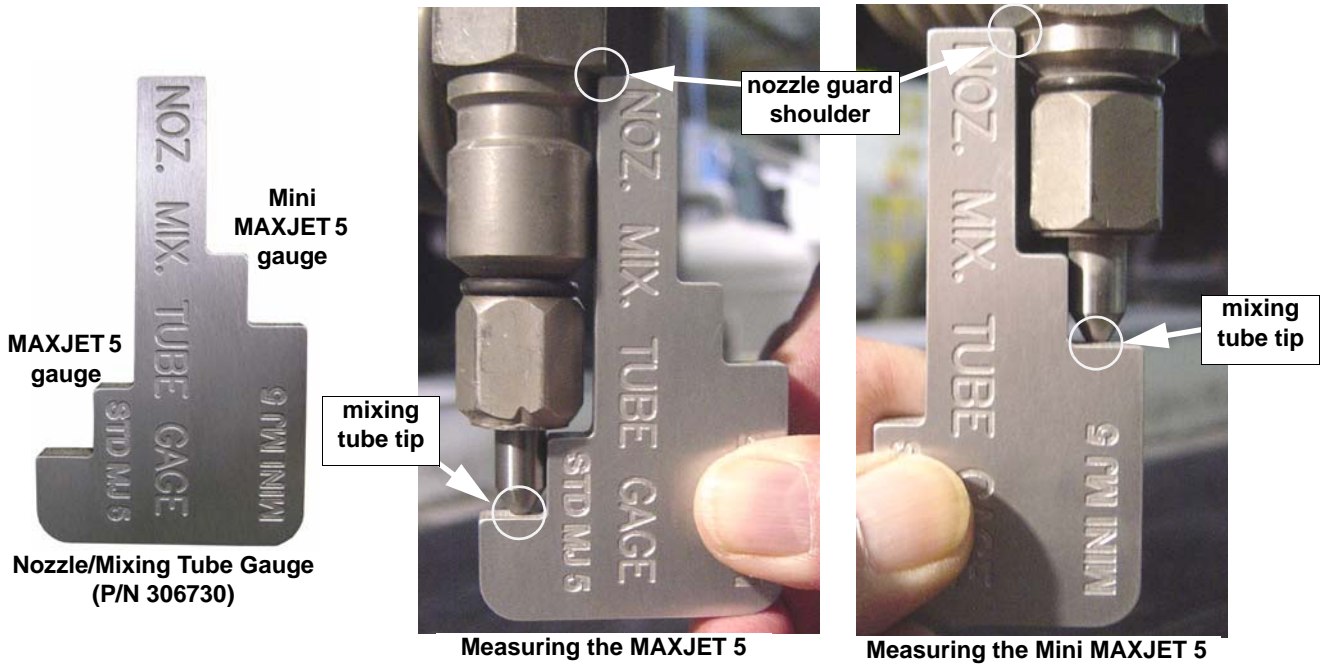

Figure 4-16: Verify Correct Mixing Tube Placement
11. Ensure that your mixing tube has been installed properly using the nozzle/mixing tube gauge as illustrated below in Figure 4-16: